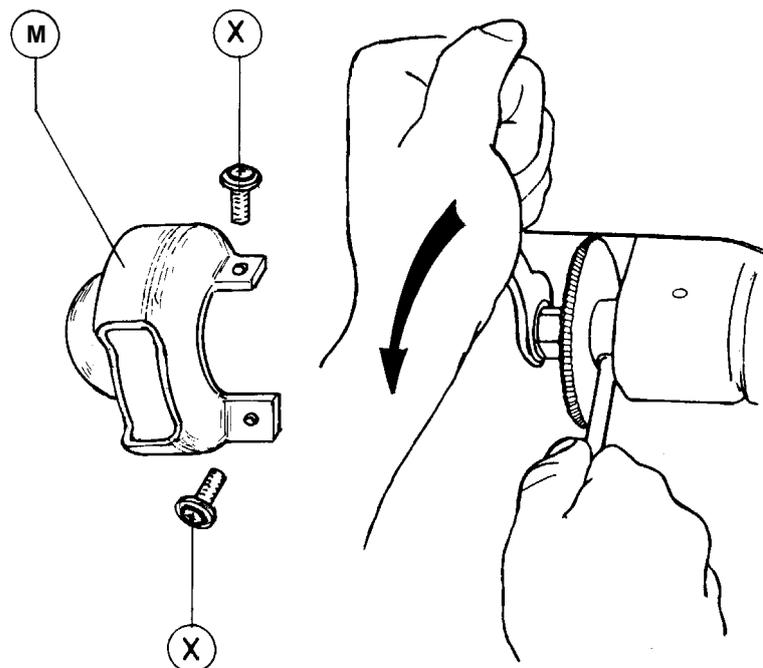

Fig. 13
- 1) Slot the locking rod (standard) into the hole of the cutting tool shaft (fig. 13).